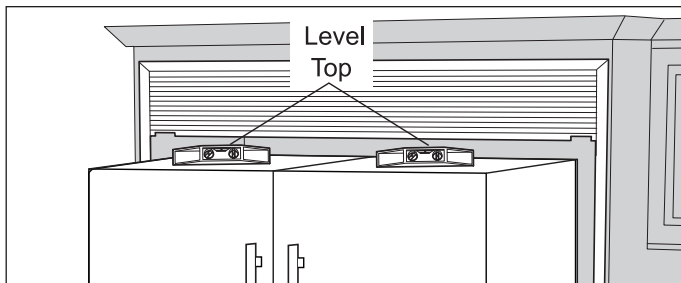

Figure 2-24.
1. Remove the plastic top hinge covers and replace with the supplied silver hinge covers (I).
3. Place a carpenter's level across the top of the door. Using a tape measure, adjust all four levelers so that each door is level and to a height of 69-3/8" across top front edge of door. (See Figures 2-24 and 2-25).
4. Place a carpenter's level vertically on the front of the door and level so that the front surface of door is vertical. Recheck to make sure top front edge of door is still at a height of 69-3/8". Adjust as necessary. (See Figures 2-24 and 2-25).